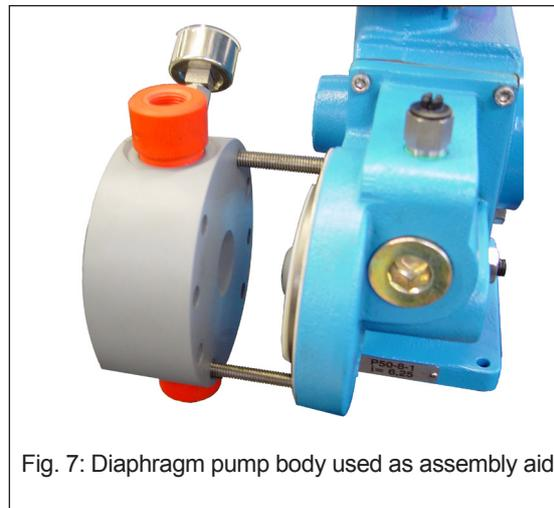

Fig. 7: Diaphragm pump body used as assembly aid.
1. Slightly coat diaphragm drive (501) with lubricating oil around the turned out area of the sandwich diaphragm (527).
2. Place sandwich diaphragm (527) centrally in the diaphragm drive.
3. Screw the two threaded rods (assembly aids) into the diaphragm drive housing (501).
4. Push the diaphragm pump body (526) onto the threaded rods with the side formed as an assembly aid at the front (see fig. 7).
5. Screw the diaphragm pump body (526) by hand onto the diaphragm drive housing (501) using the wing nuts (assembly aids). Tighten the wing nuts evenly when doing this. The sandwich diaphragm (527) is thus secured against twisting in the subsequent work steps.
6. Coat hexagon head screw (595) with lubricating oil.
7. Install the spring (599) with the washer/ spring plate (596) and fit the hexagon head screw (595) by hand. It may only be screwed in by hand (do not use a power screwdriver)!
8. Apply spring pre-tension manually via hexagon head screw (595).